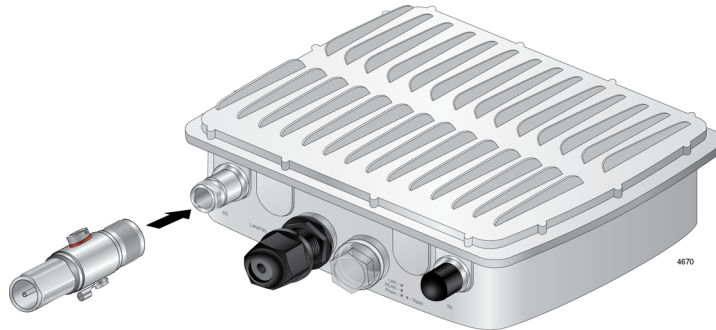

Figure 8. Attaching a Surge Protector to an Antenna Connector
2. Attach a surge protector to an antenna connector. See Figure 8.